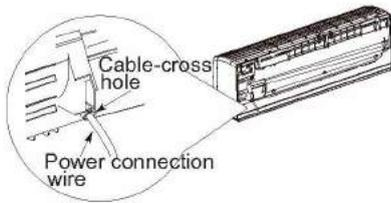

Fig.12
(2) Make the power connection wire go through the cable-cross hole at the back of indoor unit and then pull it out from the front side. (As show in Fig. 12)